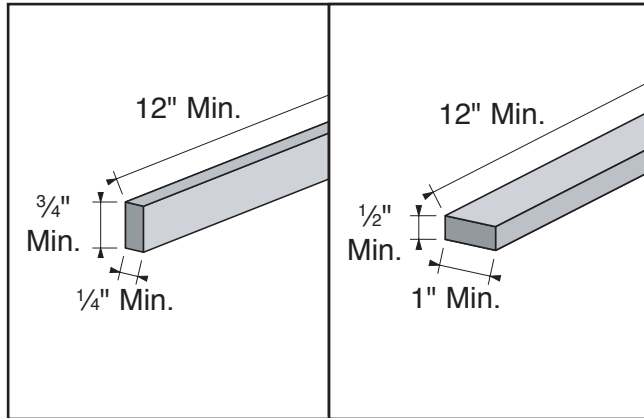

Figure 24. Minimum dimensions for edge jointing and surface planing (jointer).
- Make sure workpiece exceeds minimum dimension requirements (see **Figures 24–25**) before edge jointing or surface planing, or it may break or kick back during operation!